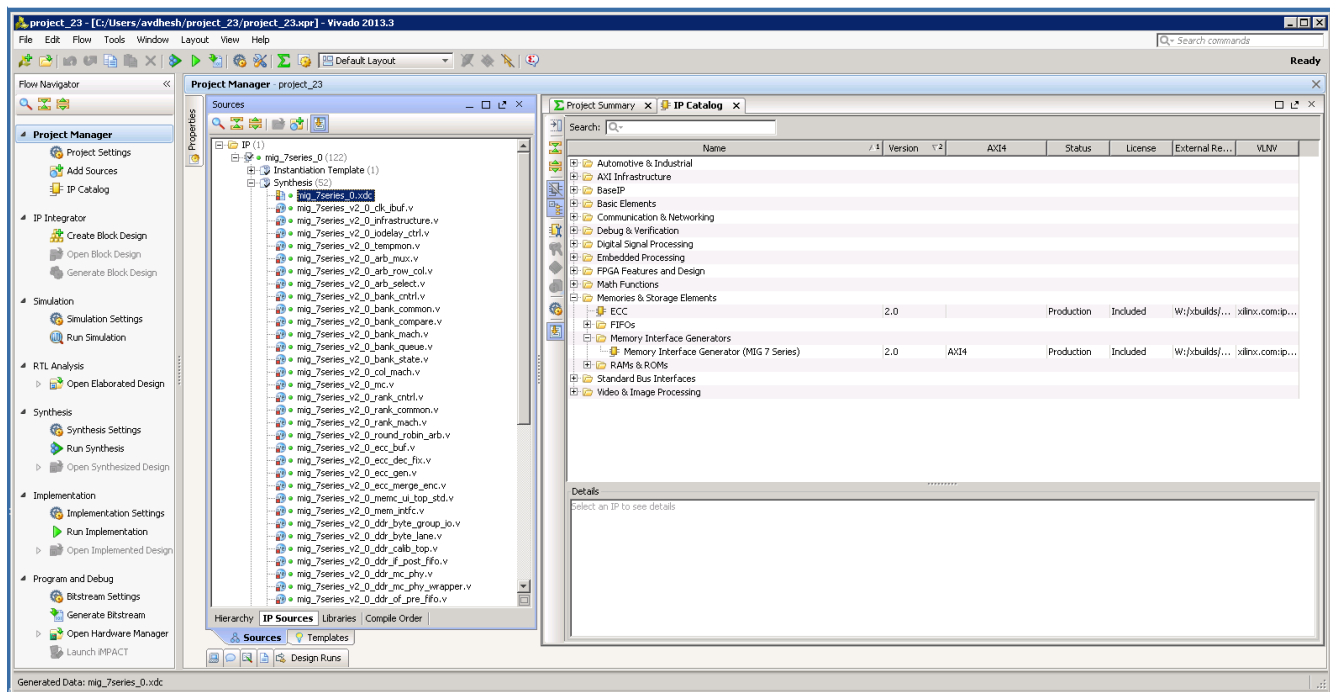

Figure 5-23: Generate RTL and Constraints
- All MIG generated user design RTL and XDC files are automatically added to the project. If files are modified and you wish to regenerate them, right-click the XCI file and select **Generate Output Products** (Figure 5-23).